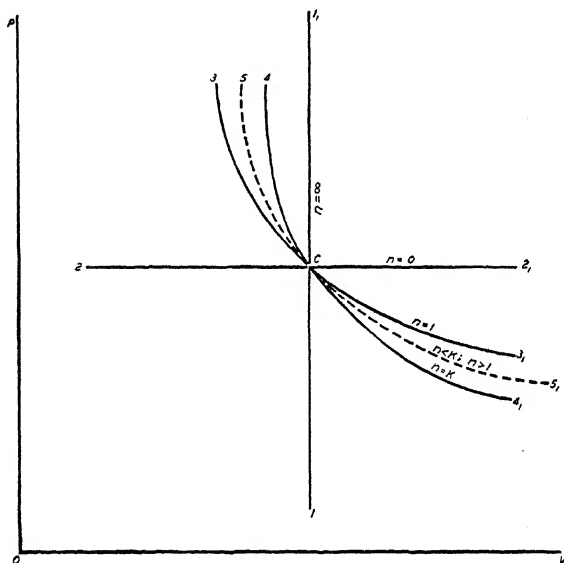

Fig. 18
The point, C , in Fig. 18, represents a given condition as to pressure and volume of an ideal gas. One horizontal line, 1 1₁, one vertical line 2 2₁, and a very large number, in fact an infinite number, of curved lines, such as 3 3₁, 4 4₁, and 5 5₁, could be drawn through point, C . Each would represent a polytropic process by its PV -diagram, and would follow the law, given by formula (84), $PV^n = a$ constant. Although these processes follow the same law, their PV -diagrams are different lines due to the fact that each process has its own numerical value for n . Therefore in the general polytropic field there is an infinite number of processes for, as previously stated, n can take any positive or negative numerical value. Of all of these possible
This is the condition of a constant volume process. Hence a polytropic, where $n = \infty$, is the constant volume process with which we have dealt in this chapter. It is indicated in Fig. 18 by the vertical line, 1 1₁, along which $n = \infty$ has been written.
In other words a polytropic process in which $n = 0$, is a process during which the pressure is constant, or a constant pressure process. This is shown in Fig. 18 by the line, 2 2₁, along which is written $n = 0$.
But this is the statement of Boyle's Law and can be true only under the condition of a constant temperature; so that when $n = 1$ during a polytropic, the latter is in reality an isothermal or constant temperature process. Fig. 18 presents it as the curve, 3 3₁.
which will be immediately recognized as the fundamental formula of the adiabatic process. Therefore a polytropic change of state during which $n = k$ is an adiabatic process, represented in Fig. 18 by the curve, 4 4₁.
which n takes values between 1 and k . These are processes which represent the actual compression of air in air compressors and the actual expansion of the working substance in internal-combustion engines. If we were to plot the curve of $PV^n = \text{a constant}$ where n is given some value between unity and k , it would fall somewhere between the isothermal curve, 3 3₁, and the adiabatic curve, 4 4₁, of Fig. 18. Such a curve is shown in Fig. 18 by the dotted line. The so-called polytropics of engineering practically always fall within this rather restricted area.